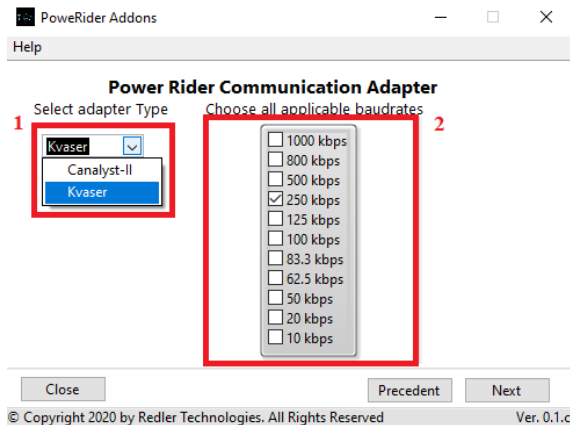

Figure 42 Power Rider Addons Communication parameters
1. Select CANBUS adapter type (see fig. 42).
2. You can select a specific baud rate or all applicable baud rates (see fig. 42).